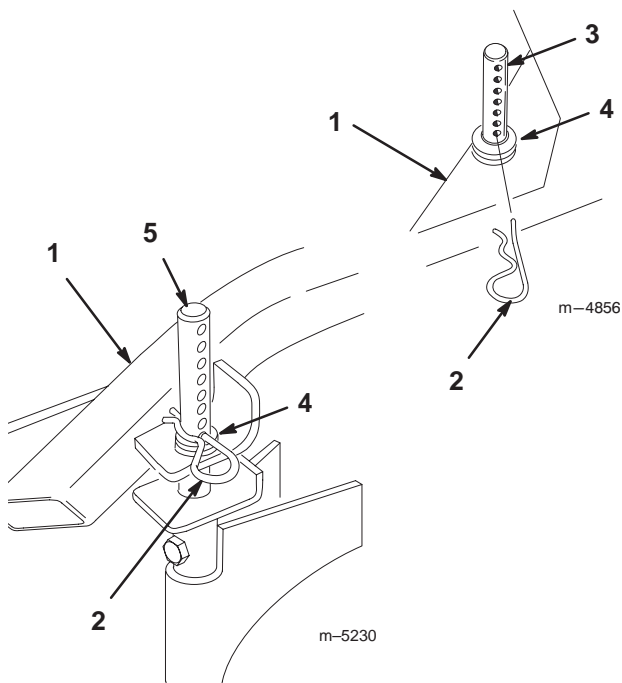

Figure 15
1. To adjust, remove hairpin cotter from height-of-cut post (Fig. 15).
2. Select hole in height-of-cut post corresponding to the height-of-cut desired (Fig. 15).
3. Lift on side of deck and remove hairpin cotter (Fig. 15).
4. Add or remove spacers, if needed, and then align holes and insert hairpin cotter (Fig. 15).